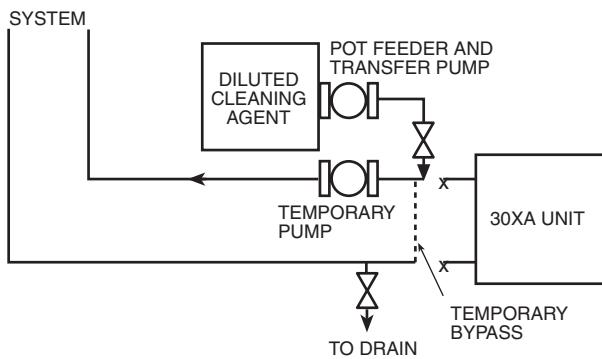

Fig. 54 — Typical Set Up for Cleaning Process
1. Install a temporary bypass around the chiller to avoid circulating dirty water and particulates into the pump package and chiller during the flush. Use a temporary circulating pump during the cleaning process. Also, be sure that there is capability to fully drain the system after cleaning. See Fig. 54.